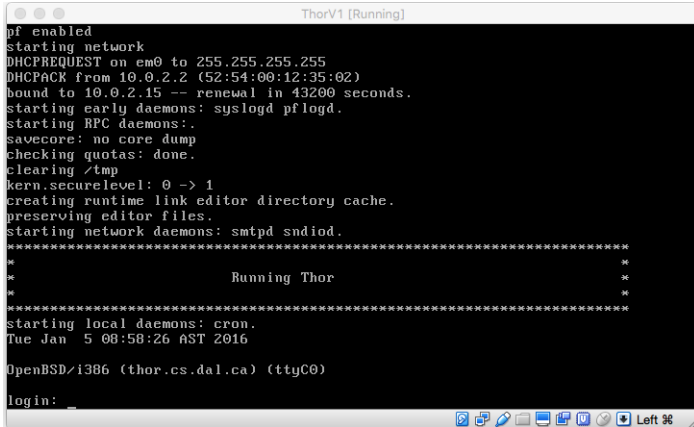

Figure 13: The *Thor* server is ready to go.
- (b) Double click on *ThorV?* in the left panel, or select it, and then click on *Start* in the top menu. You will see a window come up and text scroll by (see Figure 13). Once you see the message “Starting Thor server” the server is running.